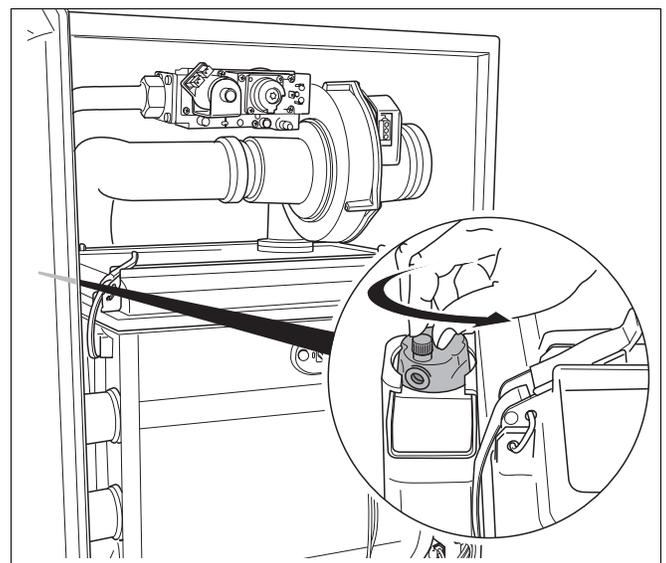

Fig. 48 Opening the automatic air vent
- Loosen the cap of the automatic air vent (fig. 48) by turning one rotation counterclockwise.